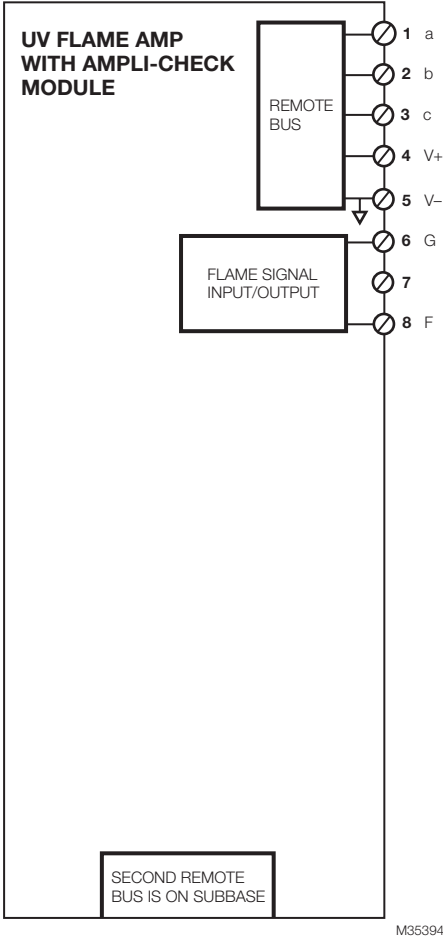

Fig. 4. R8001S1071 SLATE UV Ampli-Check Flame Amplifier wiring.
1. Refer to Fig. 4 for proper flame detector wiring.
- (1)** Enclose scanner wiring without armor cable in metal cable or conduit.
- (2)** Follow flame detector Instructions.
- 6.** Check wiring, see Fig. 4.